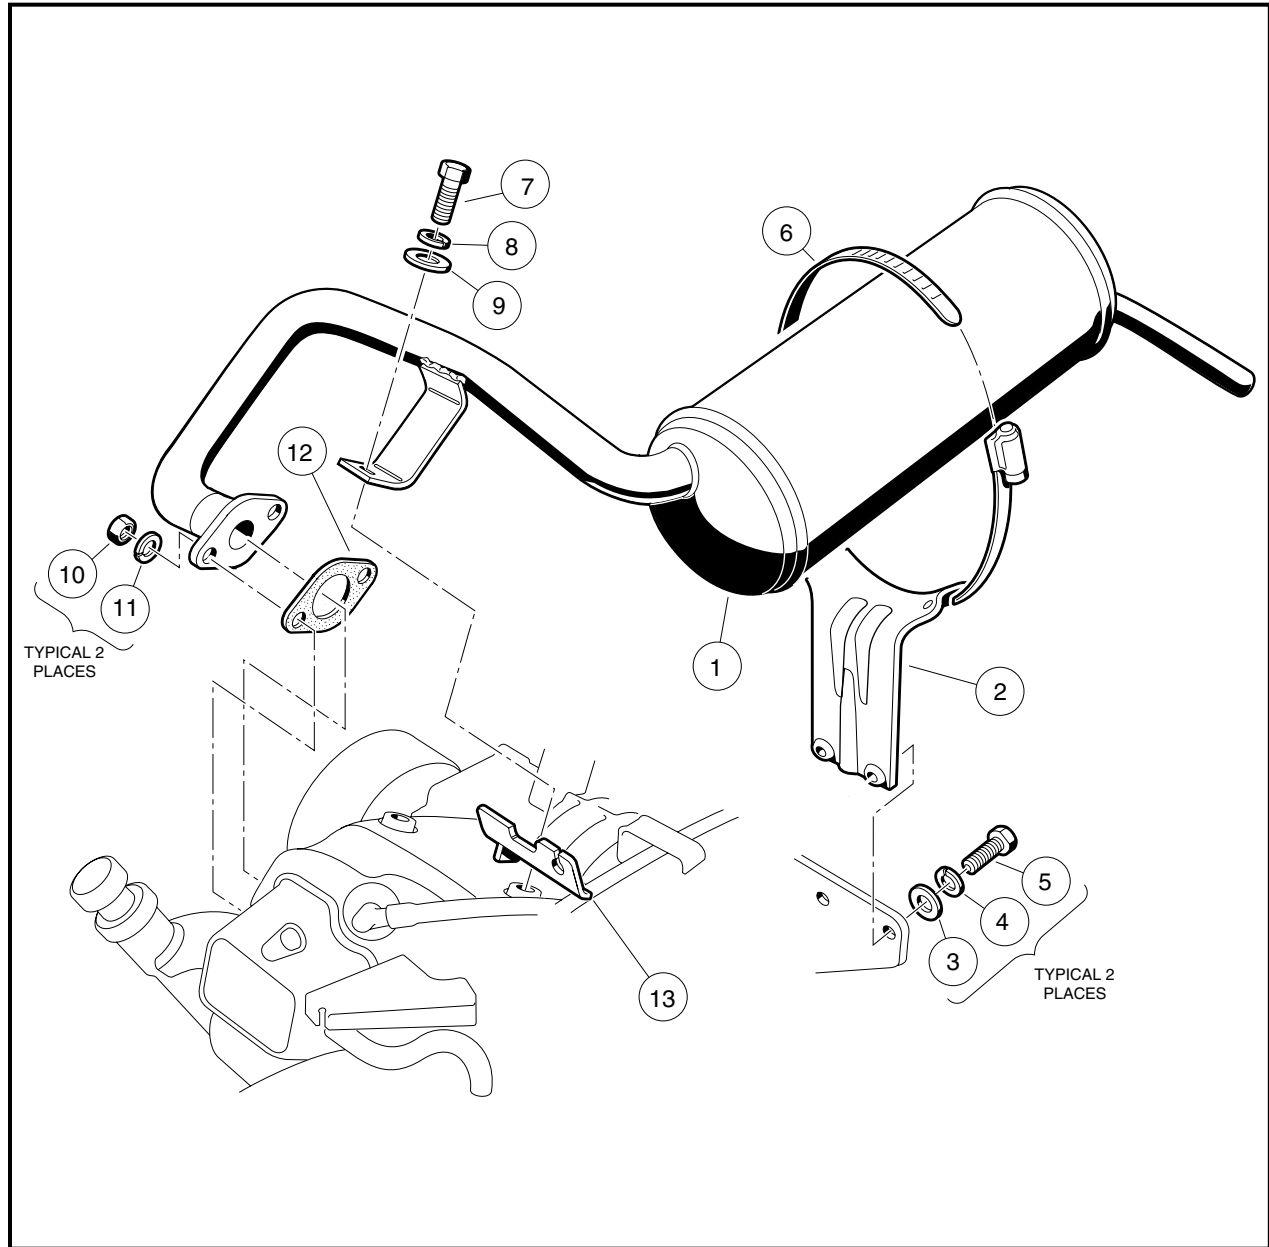
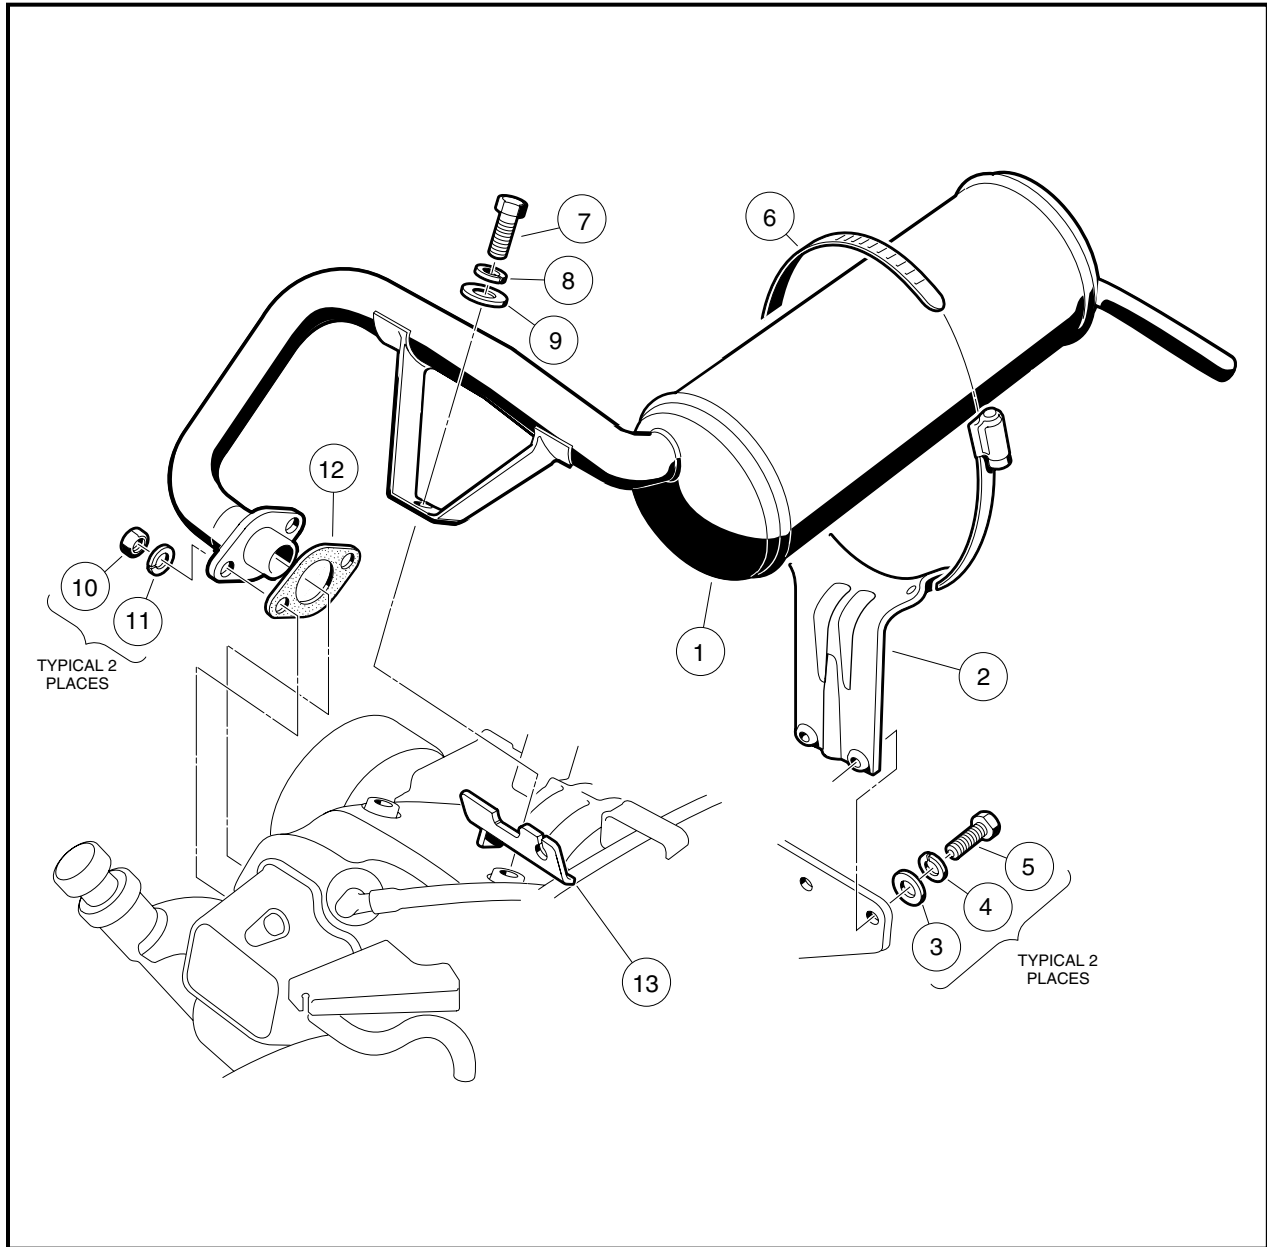

Figure 15-1 Exhaust System – FE400 Engine
Figure 15-2 Exhaust System – FE350 Engine
- **Disconnect battery cables, negative (-) cable first (Figure 15-1, Page 15-4).**
5. Remove the hex nuts (10) and lock washers (11) from the manifold (**Figure 15-1, Page 15-4 or Figure 15-2, Page 15-5**).
6. Remove the hex-head cap screw (7), lock washer (8), and flat washer (9) from mounting bracket. Retain the governor cable bracket (13).
7. Remove bolts (5), lock washers (4), and flat washers (3) from the muffler clamp bracket (2).
8. Remove the muffler (1) and clamp bracket assembly (2) from the vehicle.
9. Remove the muffler clamp (6) from the muffler clamp bracket (2).
Any time the muffler is removed from the vehicle, install a new muffler clamp (6) (CCI P/N 1017689) and muffler gasket (12) (**Figure 15-1, Page 15-4 or Figure 15-2, Page 15-5**).
1. Use the muffler clamp (6) to attach the muffler bracket (2) to the muffler as shown (**Figure 15-1, Page 15-4 or Figure 15-2, Page 15-5**). Leave the muffler clamp loose enough to allow the muffler to move as the mounting hardware is tightened. If installing a new muffler, use the old muffler as a positioning guide for the clamp and bracket.
2. Place a new gasket (12) on the exhaust manifold mounting flange as shown.
3. Position the muffler and bracket assembly, and the governor cable bracket (13) and install the bolts (5), lock washers (4), and flat washers (3). Thread the bolts in only enough to support the muffler and bracket assembly (**Figure 15-1, Page 15-4 or Figure 15-2, Page 15-5**).
4. Install the lock washers (11) and hex nuts (10) on the manifold bolts. Tighten the nuts fingertight.
5. Install the hex-head cap screw (7), lock washer (8), and flat washer (9). Tighten the cap screw fingertight.
6. Tighten the manifold hex nuts (10) to 11 ft-lb (14.9 N·m). Tighten the muffler bracket hex cap screw (7) to 14 ft-lb (18.9 N·m).
7. Tighten the muffler clamp bracket mounting bolts (5) to 75 in-lb (8.5 N·m).
8. Tighten the muffler clamp (6) to 40 in-lb (4.5 N·m).